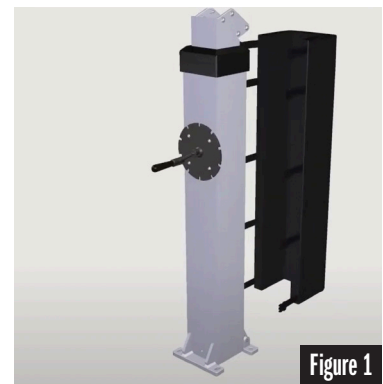

Figure 1
STEP 1: Remove the Pad from the Base Pole (Part F). See Figure 1.